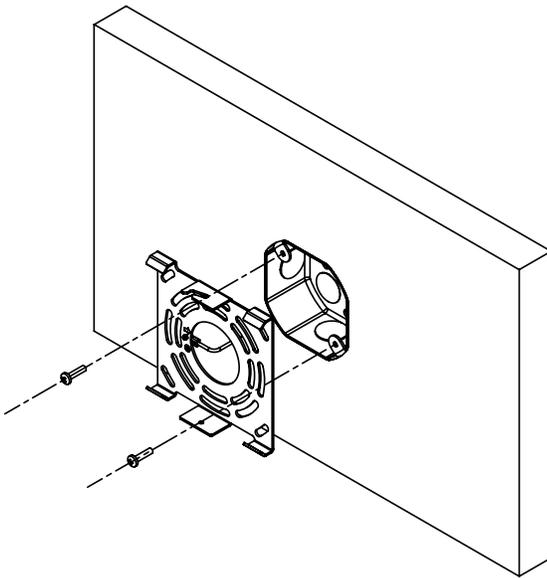

Fig. 1
1. Connect the junction box plate to the junction box with screws (Fig. 1). Note that fixture can be installed horizontally or vertically.